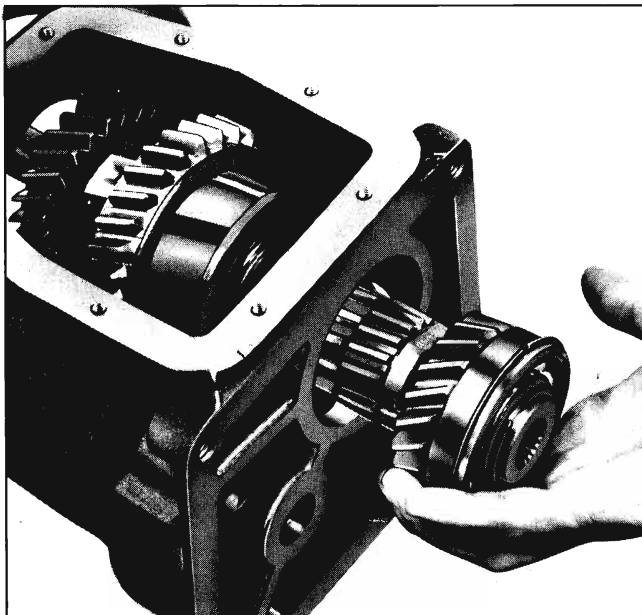

Fig. 7-49 Installing Mainshaft and Clutch Gear
18. Place the mainshaft in clutch gear and, from the front of the case, insert the mainshaft through the bores of the clutch sleeve and second speed gear (Fig. 7-49).